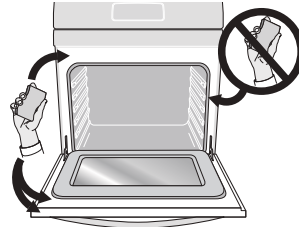

Figure 29: Clean around the oven door gasket
9. Wipe oven cavity and bottom. Do not clean oven door gasket (Figure 29). Avoid leaning or resting on the oven door glass while cleaning cavity.